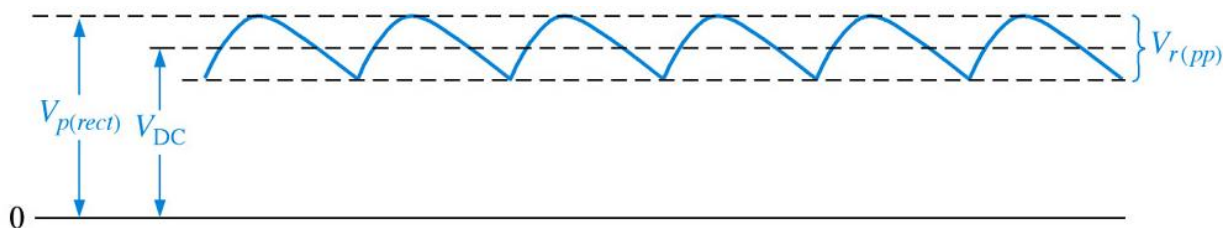

Figure 5
6. Though the output of the circuits is a DC current, but its amplitude fluctuates, i.e., it does not change direction but amplitude changes as shown in Figure 5. In order to smooth the rectified output voltage, a filter is needed. An electric filter is a Capacitor-Resistor circuit that stores voltage when the rectified DC voltage is high and discharges the stored voltage when the rectified DC is low. Now, the power supply filter is examined.
Connect a $22\ \mu\text{F}$ filter capacitor in parallel with the load resistor (R_L). Check the polarity of the capacitor- the negative side goes towards ground (the long lead of capacitor is positive). Measure the dc load voltage, V_{out} (DC), and peak to peak ripple voltage, $V_{r(pp)}$, in the output as show in Figure 5. To measure the ripple voltages, switch the oscilloscope to AC coupling. This slows you to magnify the small ac ripple voltage without including the much larger dc level. Measure the ripple frequency at which the waveform repeats.